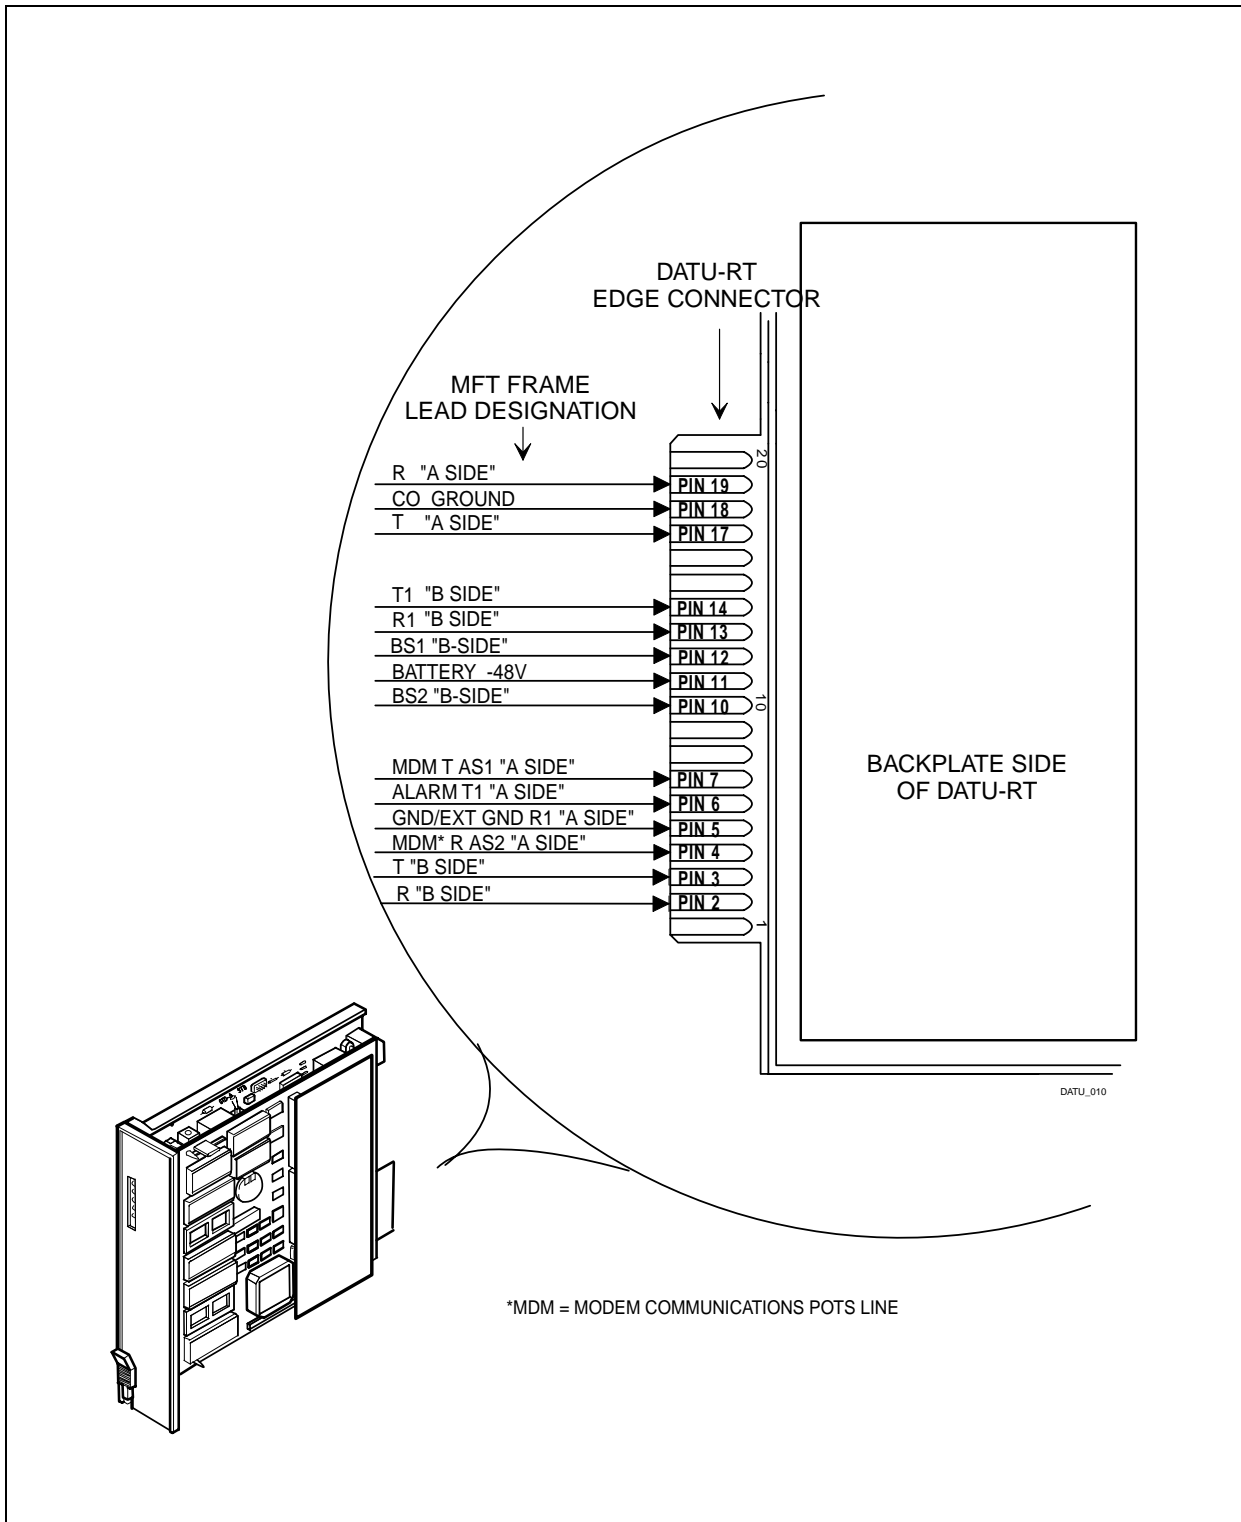

Figure 2-1. DATU-RT Card Pin Locations
- To provide an external ground source for the RT system line conditioning functions, remove the J2 shorting pin on the DATU-RT and connect the appropriate ground to R1/B (A side) on the MFT bay (DATU-RT pin 5), refer to Figure 2-1.